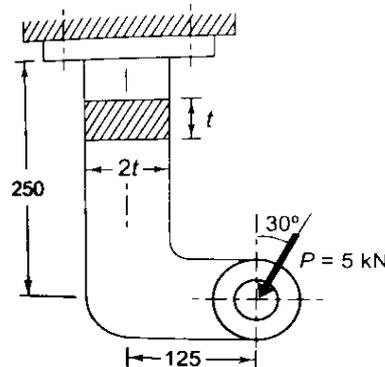

Fig.1
- (c) A bracket made of steel (yield strength of 200 MPa) and subjected to force of 5 KN acting at 30 degree to vertical as shown in fig 1. The factor of safety is 4. Determine dimension of cross section of bracket. **07**